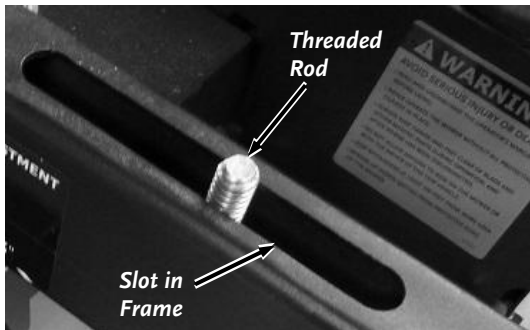

Figure 9
6. With the help of another person, position the Frame over the Deck Assembly with the Threaded Rods through the slots in the Frame (**Figure 9**).